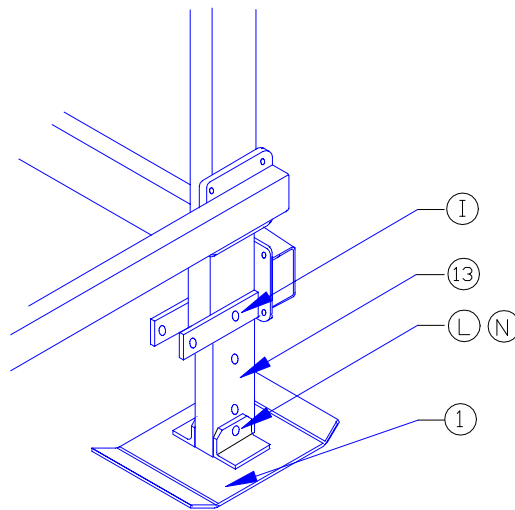

Figure 3-3
1. Refer to Figure 3-3. Fasten an extension leg onto each of the foot plates using supplied hardware. Insert these subassemblies into the bottoms of each of the vertical legs A, B, C, and D.